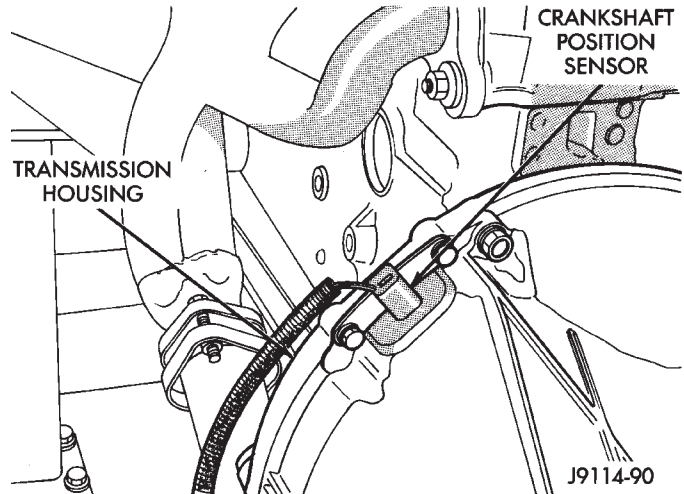

Fig. 34 Crankshaft Position Sensor
- (4) Disconnect cooler lines at transmission.
- (5) Support engine with safety stand and support transmission with jack.
- (6) Disconnect transmission and transfer case shift linkage.
- (7) Remove necessary exhaust components.
- (8) Disconnect vehicle speed sensor wires
- (9) Mark position of front and rear propeller shafts for alignment reference. Then remove shafts from vehicle.
- (10) Remove rear crossmember.
- (11) Disconnect transmission shift cable at transmission. Then disconnect transmission throttle valve cable at engine.
- (12) Disconnect necessary vacuum and fluid hoses.
- (13) Remove transfer case from transmission.
- (14) Disconnect and remove crankshaft position sensor (Fig. 34).